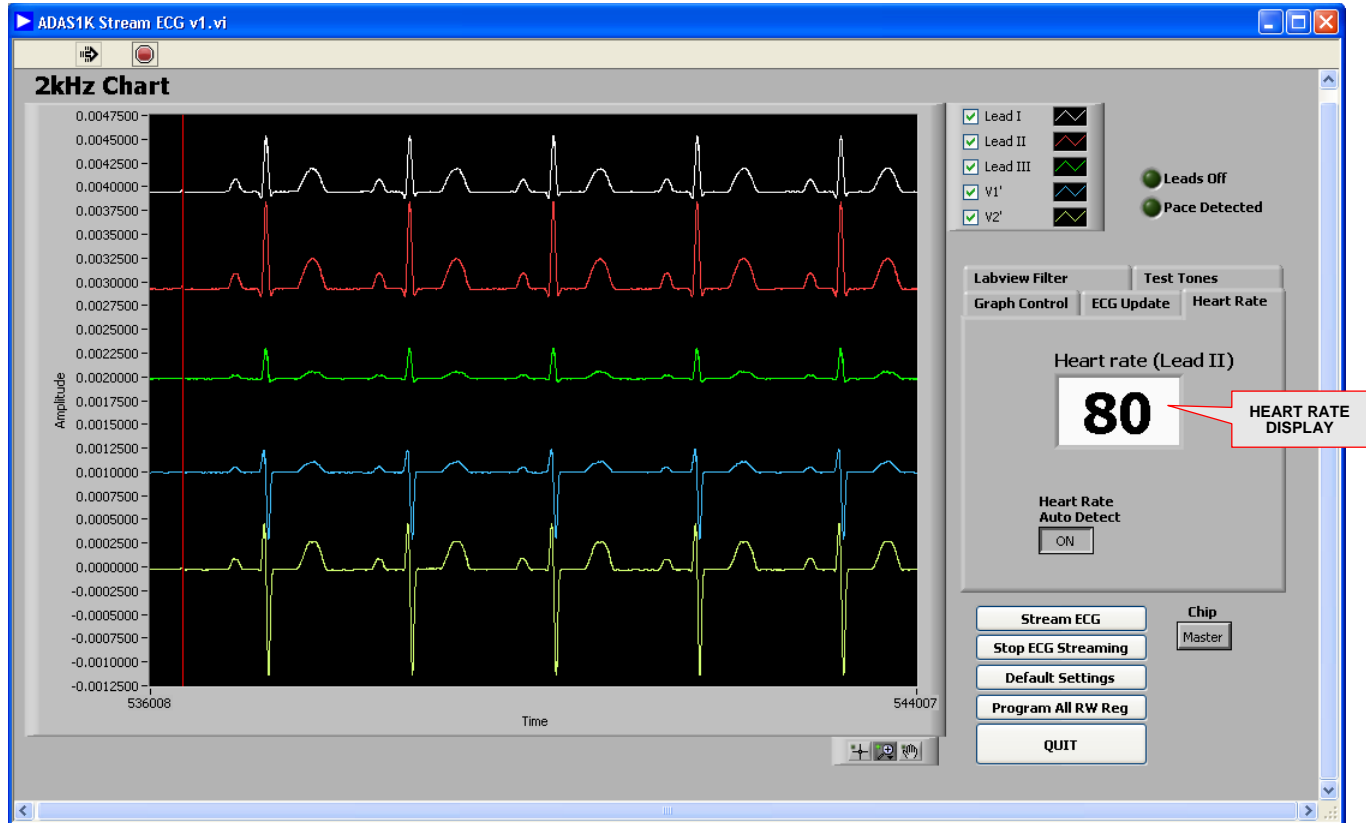

Figure 18. ECG Capture Window with Heart Rate Shown
3. To start streaming ECG data, go to **Stream ECG** and a pop-up window (see Figure 18) opens and the GUI automatically starts reading ECG data from the board.
3. Note that the software also allows users to detect heart rate. This applies to LEAD II (see Figure 18).